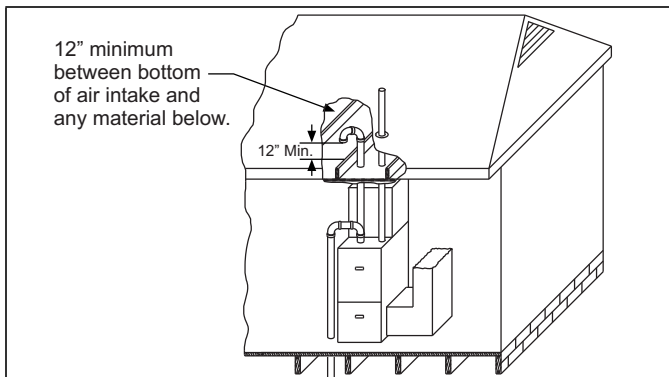

FIGURE 41: Attic and Crawl Space Combustion Air Termination
3. **VENTILATED COMBUSTION AIR:** Combustion air is supplied through a PVC or ABS pipe that is connected to the PVC coupling attached to the burner box and is terminated in a ventilated attic or crawl space. The combustion air and the vent pipes are not terminated in the same atmospheric zone. Refer to Figure 41 for attic and crawl space termination. Only the combustion air intake may terminate in the attic. The vent must terminate outside.
Refer to Figure 41 for required attic termination for the combustion air intake pipe. For attic termination, use two 90° elbows with the open end in a downward position. Be sure to maintain 12" (30.5 cm) clearance above any insulation, flooring or other material.